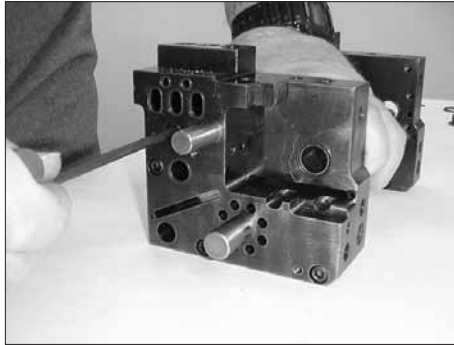

Figure 7-62 Tightening inner slice bolts
5. See Figure 7-62. Apply anti-seize lubricant and place the four M5 bolts in each slice. Tighten each to 10.7 N•m (95 in.-lb). Continue adding slices, alternating part numbers, until the desired configuration is achieved.